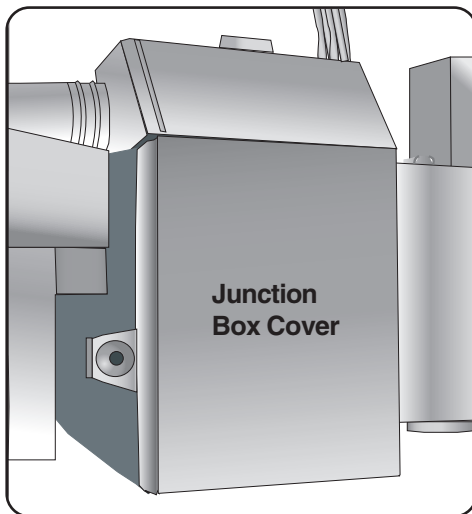

Figure 13
1. Remove junction box cover, Figure 13, by lifting the junction box cover up and off.